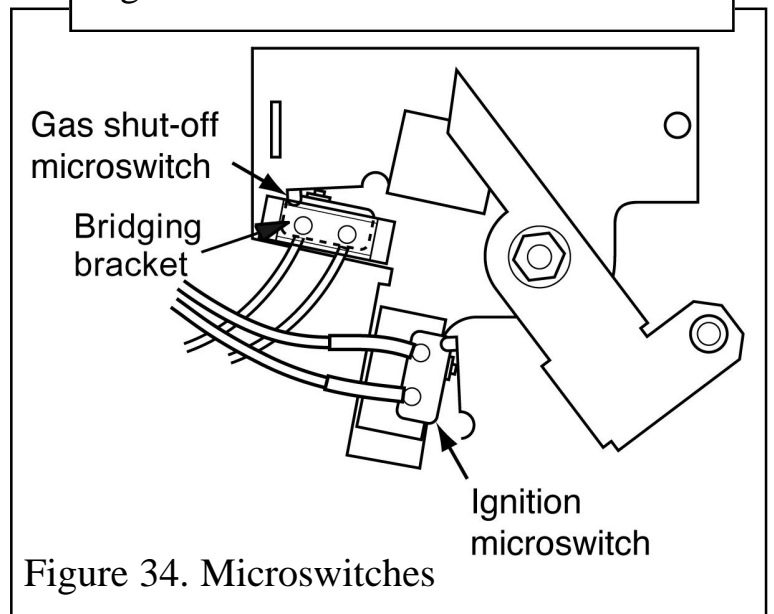

Figure 34. Microswitches
3. Disconnect the leads from the ignition microswitch (The lower of the two microswitches (See figure 34).
4. Detach the bridging bracket, microswitch assembly by removing two screws (See figure 34).